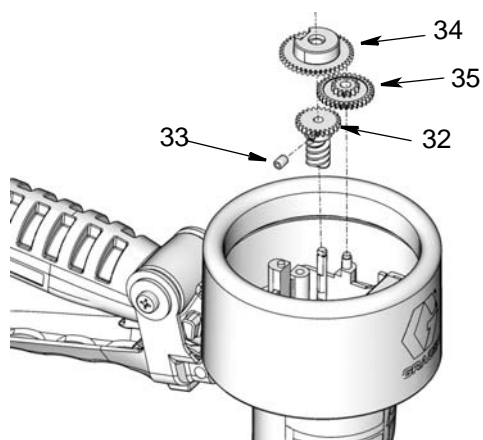

FIG. 21
2. Install the gears (32, 34, 35) as shown in FIG. 21. Use a 2 mm hex wrench to tighten the gear set-screw (33).